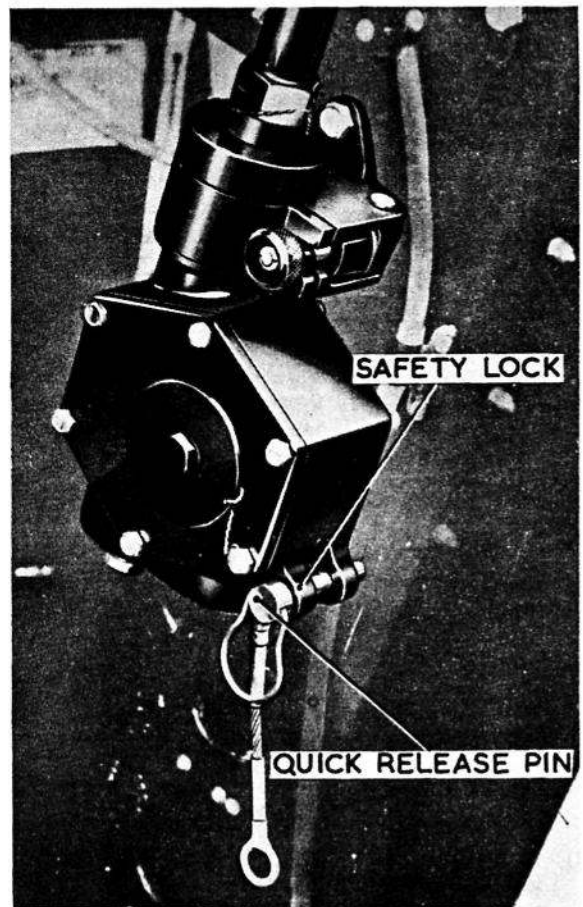

Fig. 3. Drogue gun safety lock
3. (1) Disconnect the static line by withdrawing the quick-release pin. Render the gun safe by inserting the pin in the safety lock (fig. 3).